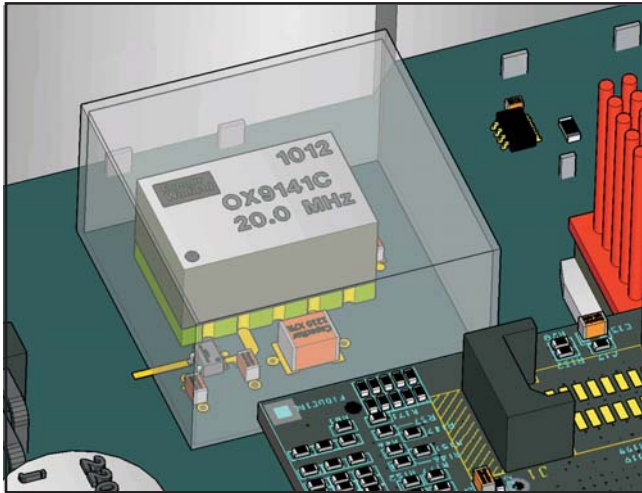

Figure: 16-01
- Plastic and metal covers can be used to further reduce small temperature fluctuations in the system by reducing variable air flow across the device. An effective cover will should still allow a small air gap between the OCXO and any wall of the cover. SEE FIGURE 16-01